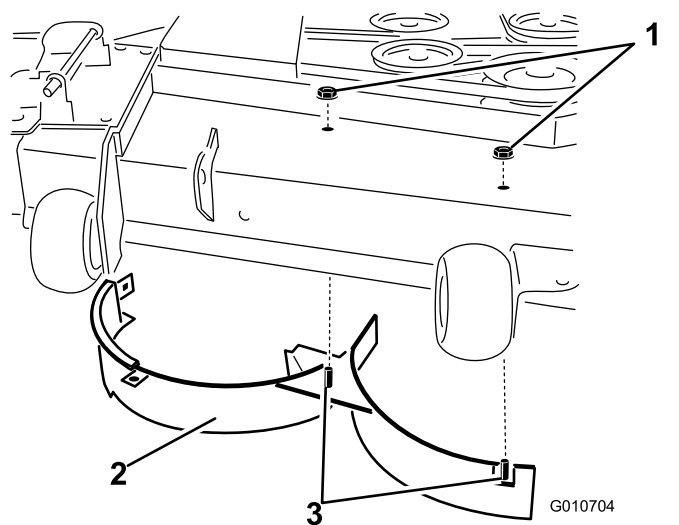

Figure 33
8. Remove the 2 locknuts (5/16 inch) to securing the welded posts of the right baffle to the top of the mower deck at the center and right of center positions (Figure 33).